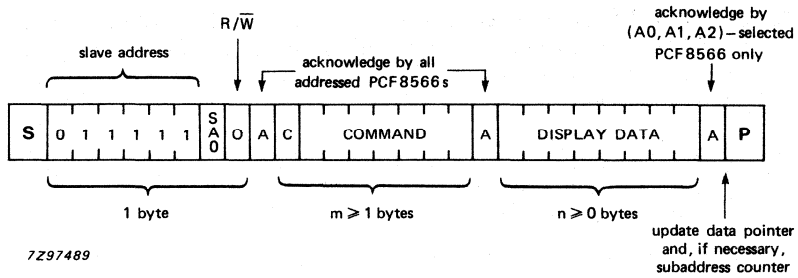

Fig. 15 I2C bus protocol.
The I2C bus protocol is shown in Fig. 15. The sequence is initiated with a start condition (S) from the I2C bus master which is followed by one of the two PCF8566 slave addresses available. All PCF8566s with the corresponding SA0 level acknowledge in parallel the slave address but all PCF8566s with the alternative SA0 level ignore the whole I2C bus transfer. After acknowledgement, one or more command bytes (m) follow which define the status of the addressed PCF8566s. The last command byte is tagged with a cleared most-significant bit, the continuation bit C. The command bytes are also acknowledged by all addressed PCF8566s on the bus.